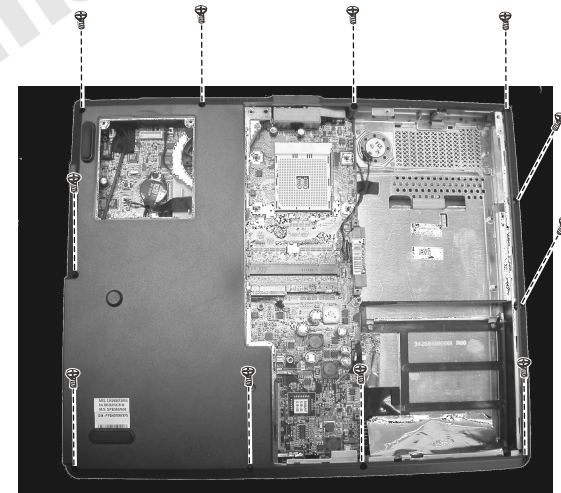

Figure 2-24 Remove the eleven screws
3. Remove the eleven screws and free the housing. (Figure 2-24)